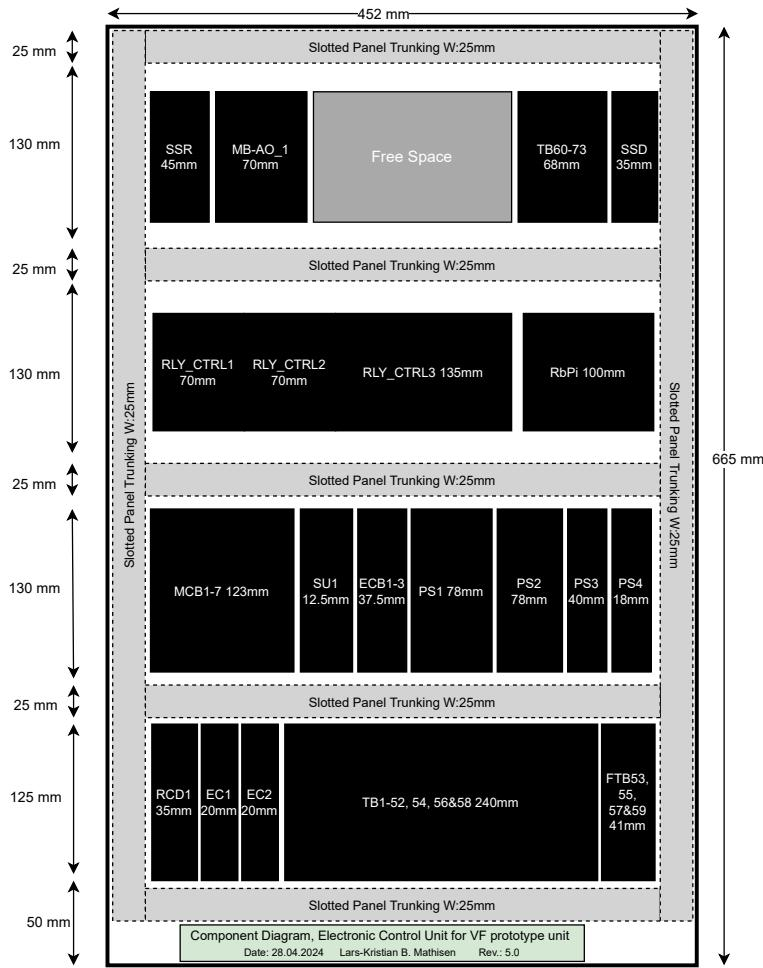

Figure 3.3: The component diagram for the ECU for the VF prototype unit.
- **Component Diagram:** Figure 3.3 provides a visual representation of all components.